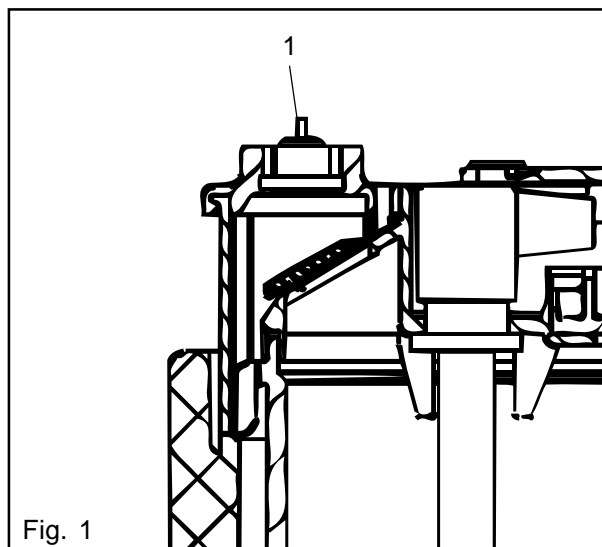

Fig. 1
- Press the reset button (1) on the boil over sensor. (Fig. 1)
If necessary clean or replace the water level sensor (1) (Fig. 1).